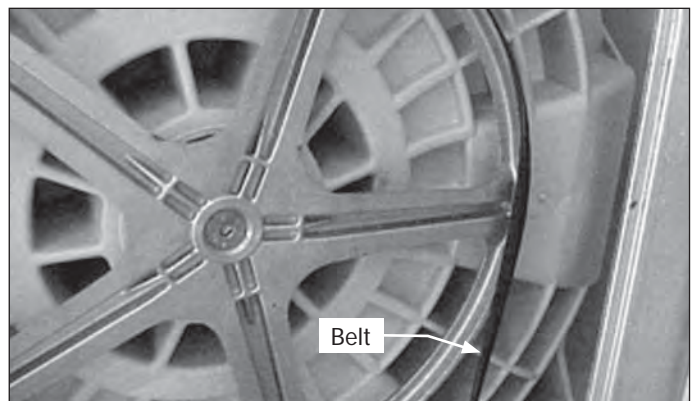

Figure 4-85.
2. Remove the belt by turning tub drive pulley and rolling belt off pulley. The belt is elastic and is designed to "give" enough to remove and install in this manner. (See Figure 4-85)